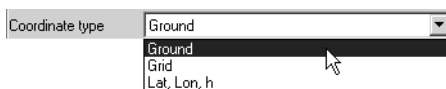

Figure 3-51. Coordinate Type List
- Select the Coordinate type (Figure 3-51).